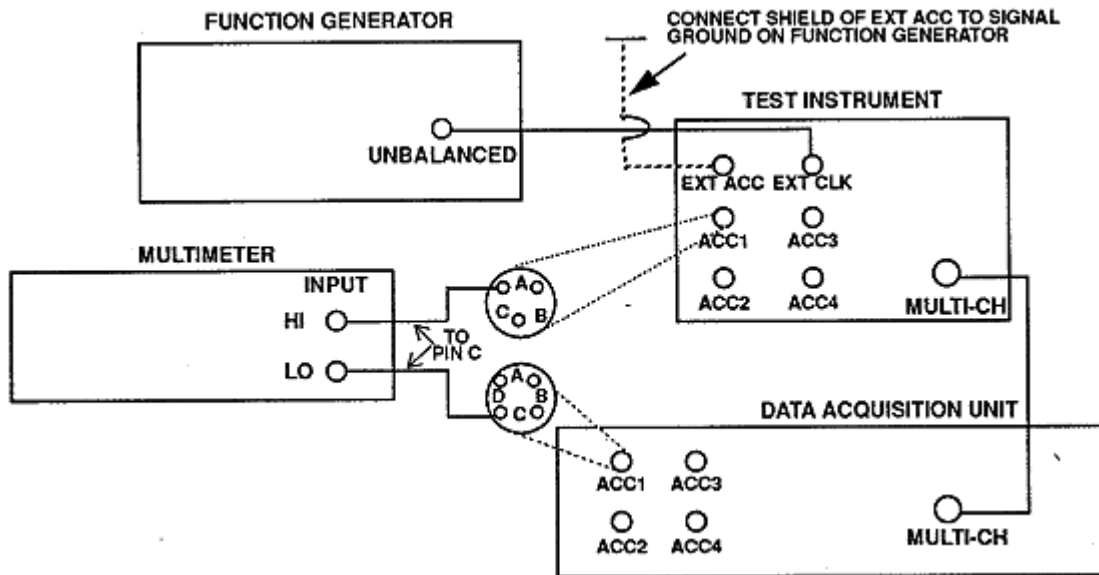

Figure 2. Signal output level.
- (1) Set **ACC 1** through **ACC 4** channel switches to **100 mV/g**.
- (2) Connect equipment as shown in fig. 2.
(6) The difference between the high and low indications will be between 0.96334 and 1.00266 V dc.
(7) Repeat technique of (4) through (6) above for remaining **ACC SIGNAL SELECT** dial positions listed in table 3, **ACC 1** row. The high and low difference will be within the limits specified.
(8) Move multimeter connections (fig. 2) from pins **C** of **ACC 1**, both TI and DAU, to pins **C** of **ACC 2**.
(9) Repeat technique of (4) through (7) above, recording results in table 3, **ACC 2** row.
(10) Repeat technique of (8) and (9) above for **ACC 3** and **ACC 4**.
(11) Set **ACC 1** through **ACC 4** channel switches to **54 mV/g**.
(12) Connect equipment as shown in fig. 2, except connect multimeter to pin B on both **ACC1** connectors.
(13) Repeat technique of (4) through (11) above for **54 mV/g** channel switch position; however, connect multimeter to pins **B** while taking measurements.
(1) Disconnect multimeter and function generator connections from TI and DAC which were made in fig. 2.